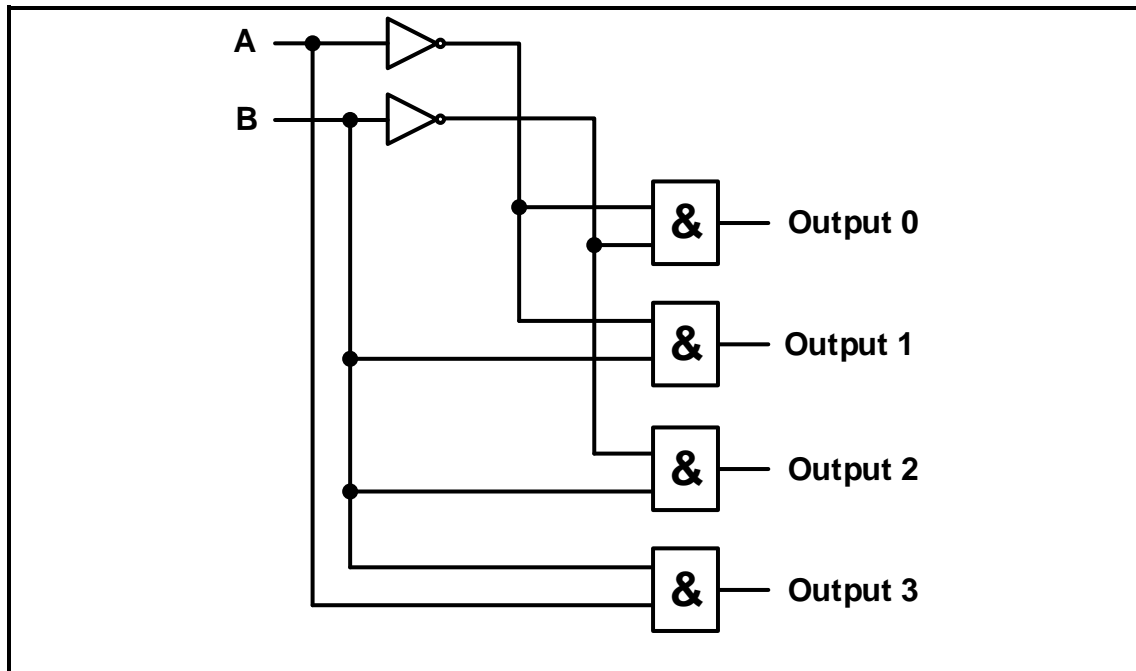

FIGURE 4.5: BINARY-TO-DECIMAL DECODER
4.5 FIGURE 4.5 below represents the circuit diagram of a binary-to-decimal decoder. Complete the truth table of this decoder on the ANSWER SHEET for QUESTION 4.5.